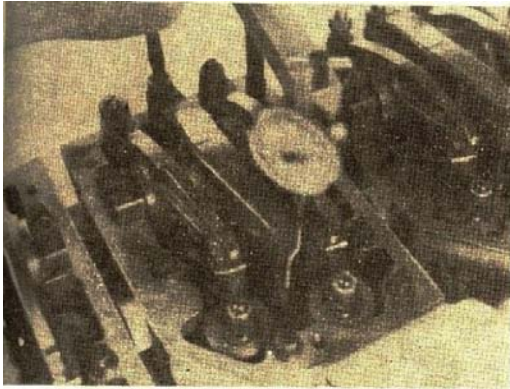

Fig. 14-66, Adjust the injector plunger travel
5. Remove the rocker lever actuator and turn the adjusting screw until the adjustment valve, Table 14-7, is obtained on the dial indicator. Fig. 14-66.